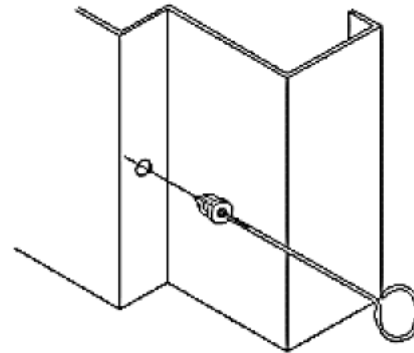

Figure 28
1. Rubber Silencer Installation: (Figure 28) Use the installation tool or a #6d nail with the point cut off. Insert nail into the hole in the silencer to elongate it. Moisten the end of the silencer and insert it into pre-punched hole in the frame stop, then remove nail.